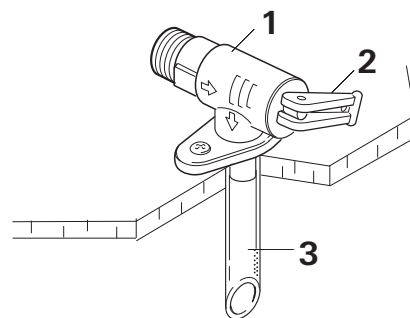
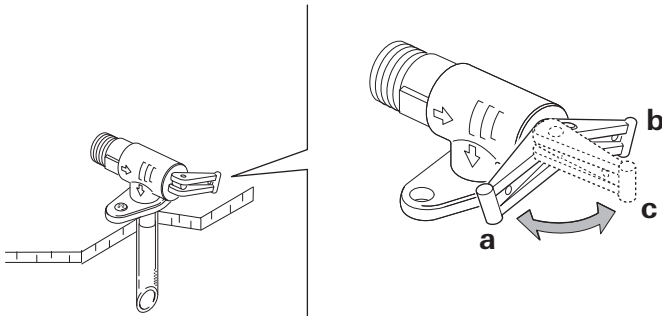

Fig. 5
Fig. 6
The Combi furnace with supplementary indirect water heating must be installed with the Truma pressure relief/drain valve (Fig. 5) that complies with the standard for Relief Valves for Hot Water Systems, ANSI Z21.22.
NOTICE Danger of damage to the Combi and the RV due to an obstructed drainage socket! The drainage socket (Fig. 5 – 3) must be unobstructed and kept clear of obstructions such as slush, ice, or leaves to ensure that water can drain properly. No warranty claims for frost damage will be accepted.
- Move the lever so that it is in the “draining” position (Fig. 6 – c). Water will drain from the hot water container via the drainage socket (Fig. 5 – 3).
- Move the lever so that it is in the “closed” position (Fig. 6 – a or 6 – b)